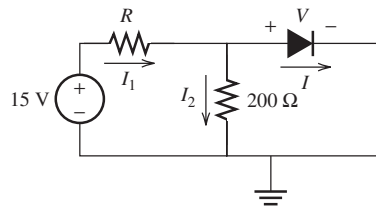

FIGURE P8.11 Circuit for Problem 8.11.
- 8.11 (A)* Find the current, I , flowing through the diode for the circuit shown in Figure P8.11 when: